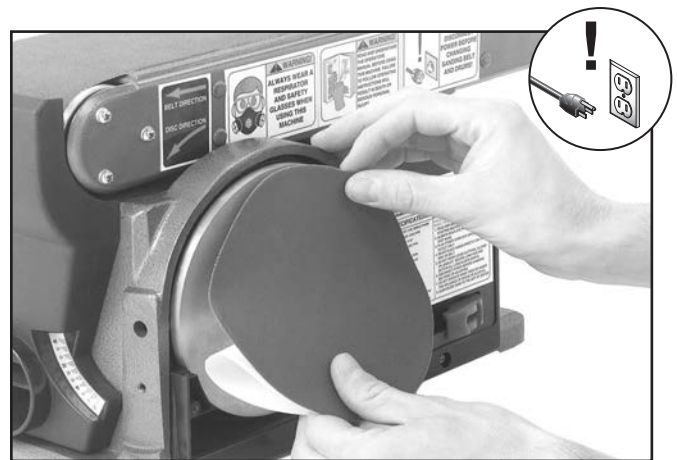

Figure 26. Installing sanding disc.
2. Center sticky half of sandpaper disc on upper half of aluminium disc and press sandpaper disc onto surface (see **Figure 26**).
3. If sanding belt moves toward disc (front of sander), rotate tracking knob (see **Figure 26**) clockwise ¼-turn.